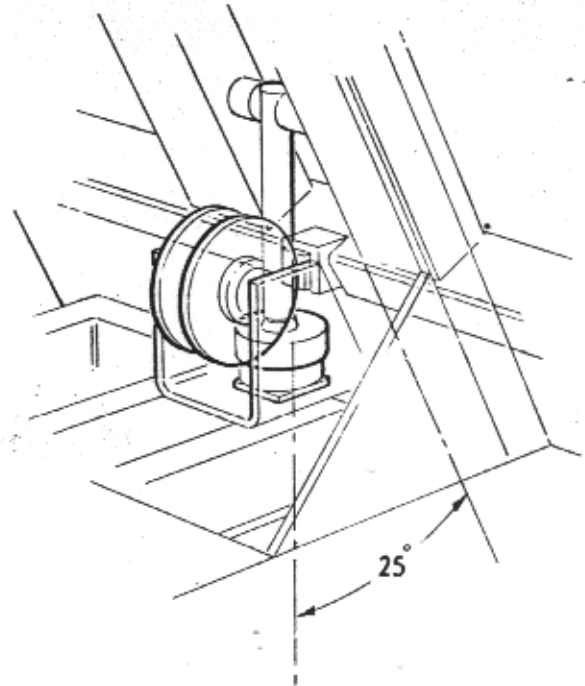

FIG. 13 CORRECT ANGLE OF LOADCELL STRIKER
Correct Angle of Loadcell Fig. 13
6. Check loadcell striker (Ref. 5 Group D) is at the correct angle of 25° to hopper cradle, see Fig. 13 (Ref. 1 Group D). Adjustment can be made by altering loadcell striker packing (Ref. 3 Group D) until correct angle is obtained. To increase gauge reading at high load's increase loadcell striker packing.